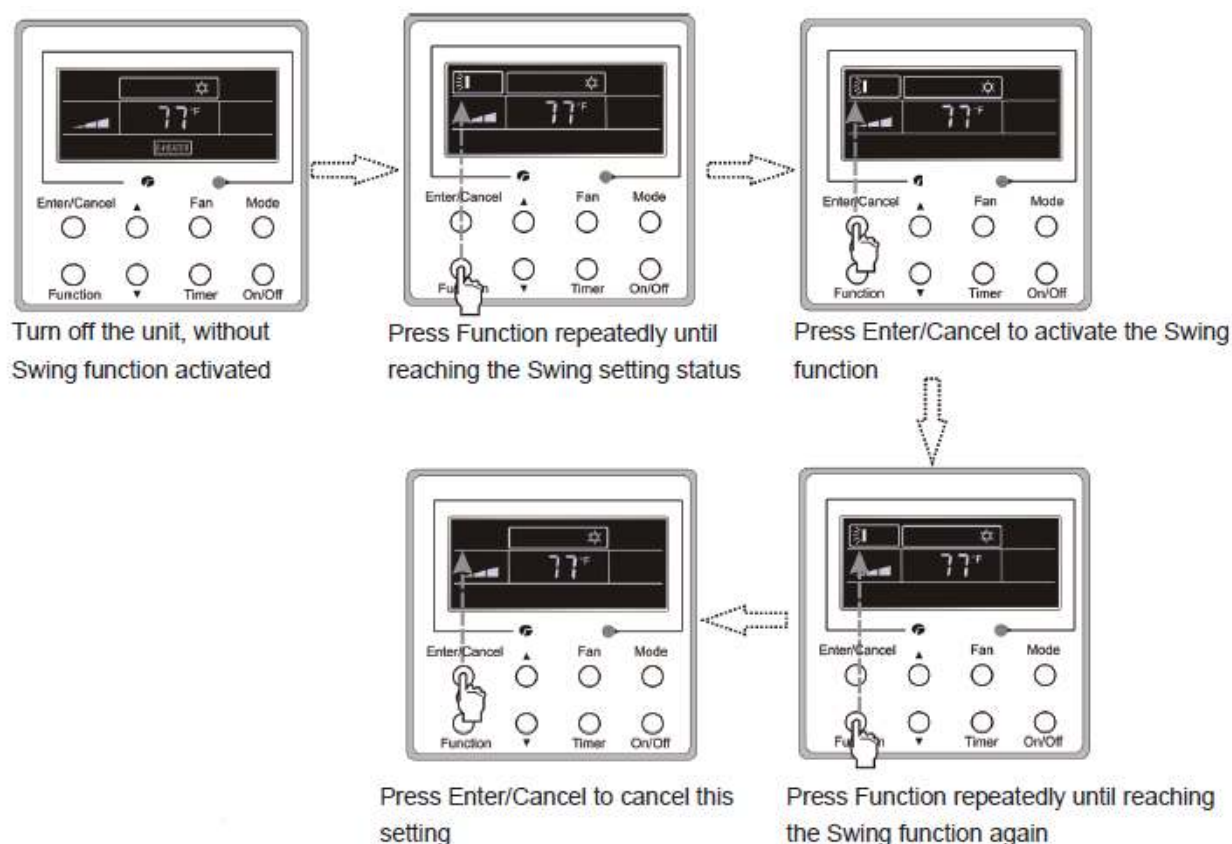

Fig. 3.6.1 Swing Setting
**Swing Off:** When the Swing function is on, press Function to enter the Swing setting interface, with  blinking. After that, press Enter/Cancel to cancel this function. Swing setting is shown below in Fig.3.6.1.